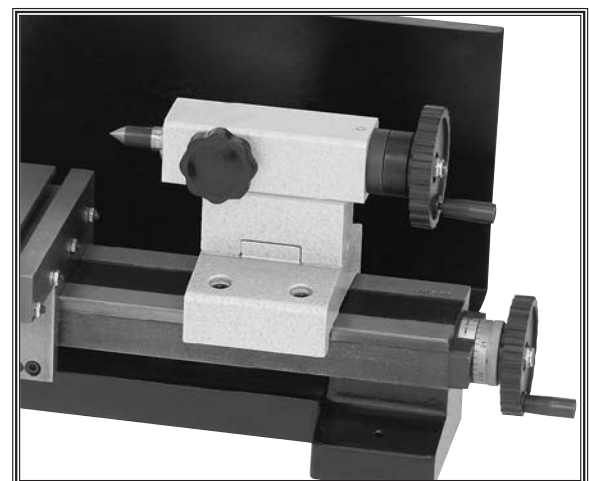

Figure 13. Tailstock installed.
The tailstock (Figure 13) of the Model M1015 lathe is used to support workpieces with the use of a live or dead center. When fitted with a drill chuck and an MT #1 arbor to mount the chuck to the tailstock, the chuck will hold a center drill to drill or bore holes in the center of a part.
- If the alignment is correct, reinstall the tailstock with the two cap screws and the gib (see Figure 13).